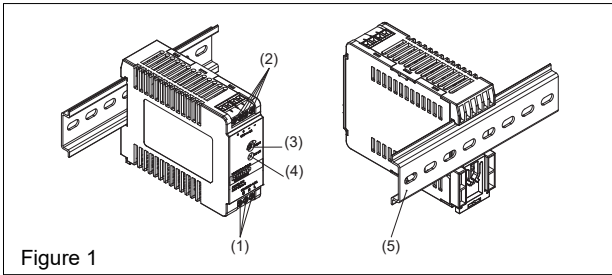
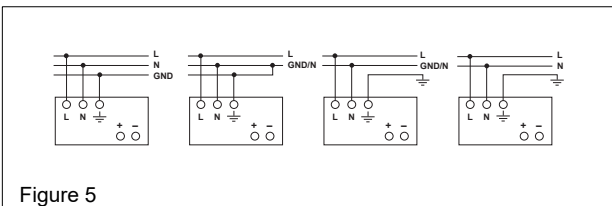

Figure 1
Figure 5
2. Device description (Fig. 1)
5.1. Input connection (Fig. 1, Fig. 5)
Use L, N and GND connections of input terminal connector (see Fig. 1 (1)) to establish the 100-240 VAC connection. Typical connection methods are shown in Figure 5.
5.2. Output connection (Fig. 1 (2))
Use the "+" and "-" screw connections to establish the 12 VDC connection. The output provides 12 VDC. The output voltage can be adjusted from 12 to 15 VDC on the potentiometer. The green LED DC OK displays correct function of the output (Fig. 1 (4)). The device has a short circuit and overload protection and an overvoltage protection limited to 16-18.7 VDC.